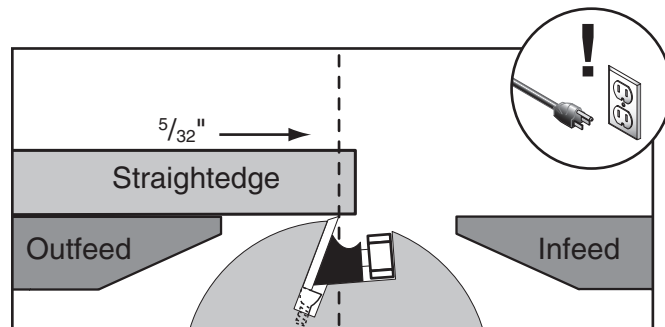

Figure 34. Using a straightedge to align outfeed table height with knife at TDC.
4. When correctly set, the knife will just touch the straightedge when the knife is at its highest point of rotation (see **Figure 34**), and the straightedge should move $\frac{5}{32}$ " toward the infeed table when the cutterhead pulley is rotated.